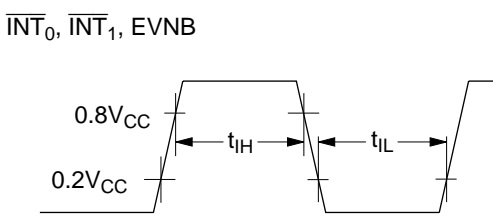

Figure 85 Interrupt Timing
4. Refer to figure 85.
6. Refer to figure 85.